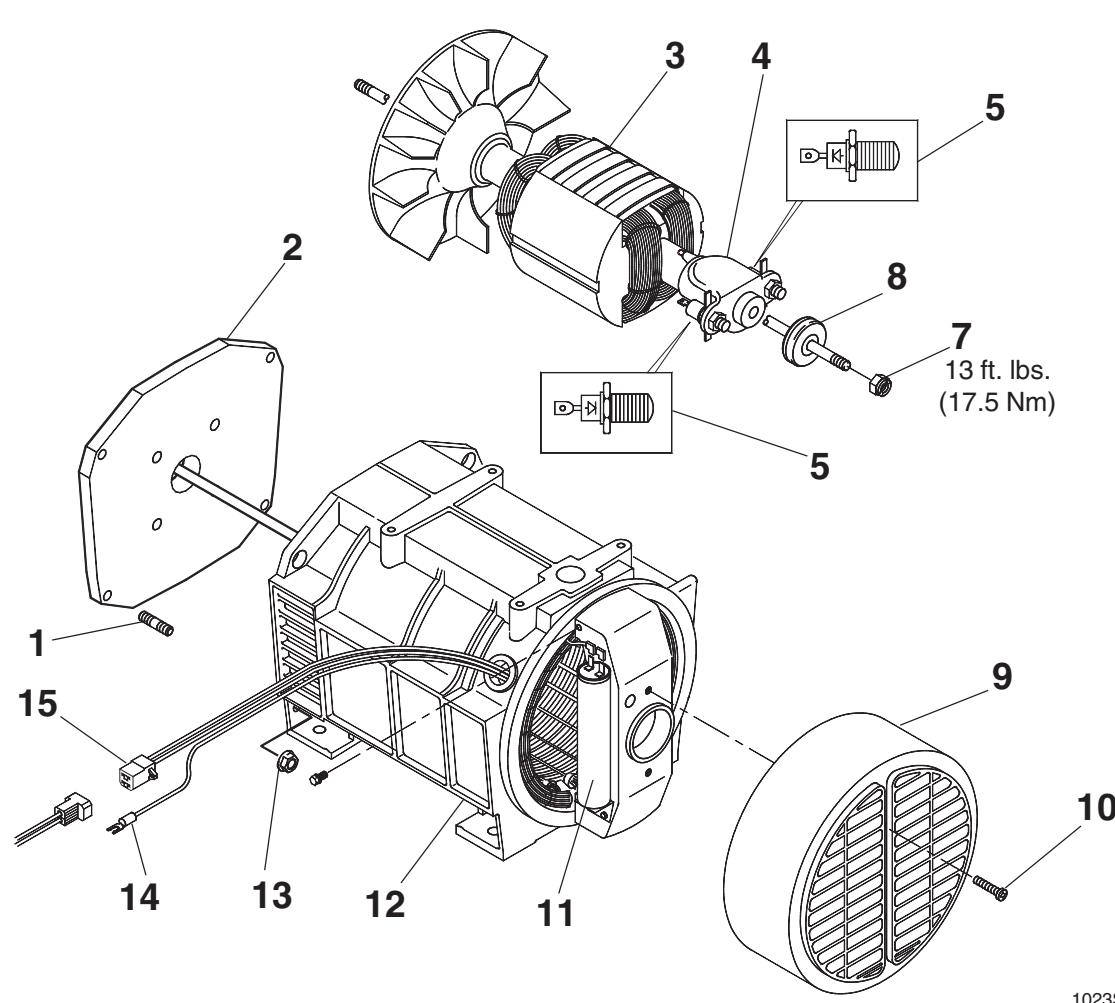

Figure 4-10. Brushless Generator
1. Remove the two end cover screws (**10**) and the end cover (**9**). See Figure 4-10.
1. Remove the control panel, unscrew the ground wire (**14**) and unplug the stator wire (**15**) from the back of the panel. See Figure 4-10.
1. Place stator on flat surface with bearing (**8**) end up. Elevate the stator (**12**) by placing two blocks of wood on the edge of the stator frame to allow the rotor to drop. See Figure 4-10.
1. Unsolder leads from the diodes (**5**) and (**8**) and unscrew diode stud. See Figure 4-10.
1. Install diodes (**5**) to the diode bracket (**4**) assembly on the rotor, by placing the solder tags on the diode stud and tighten to the diode base. See Figure 4-10.